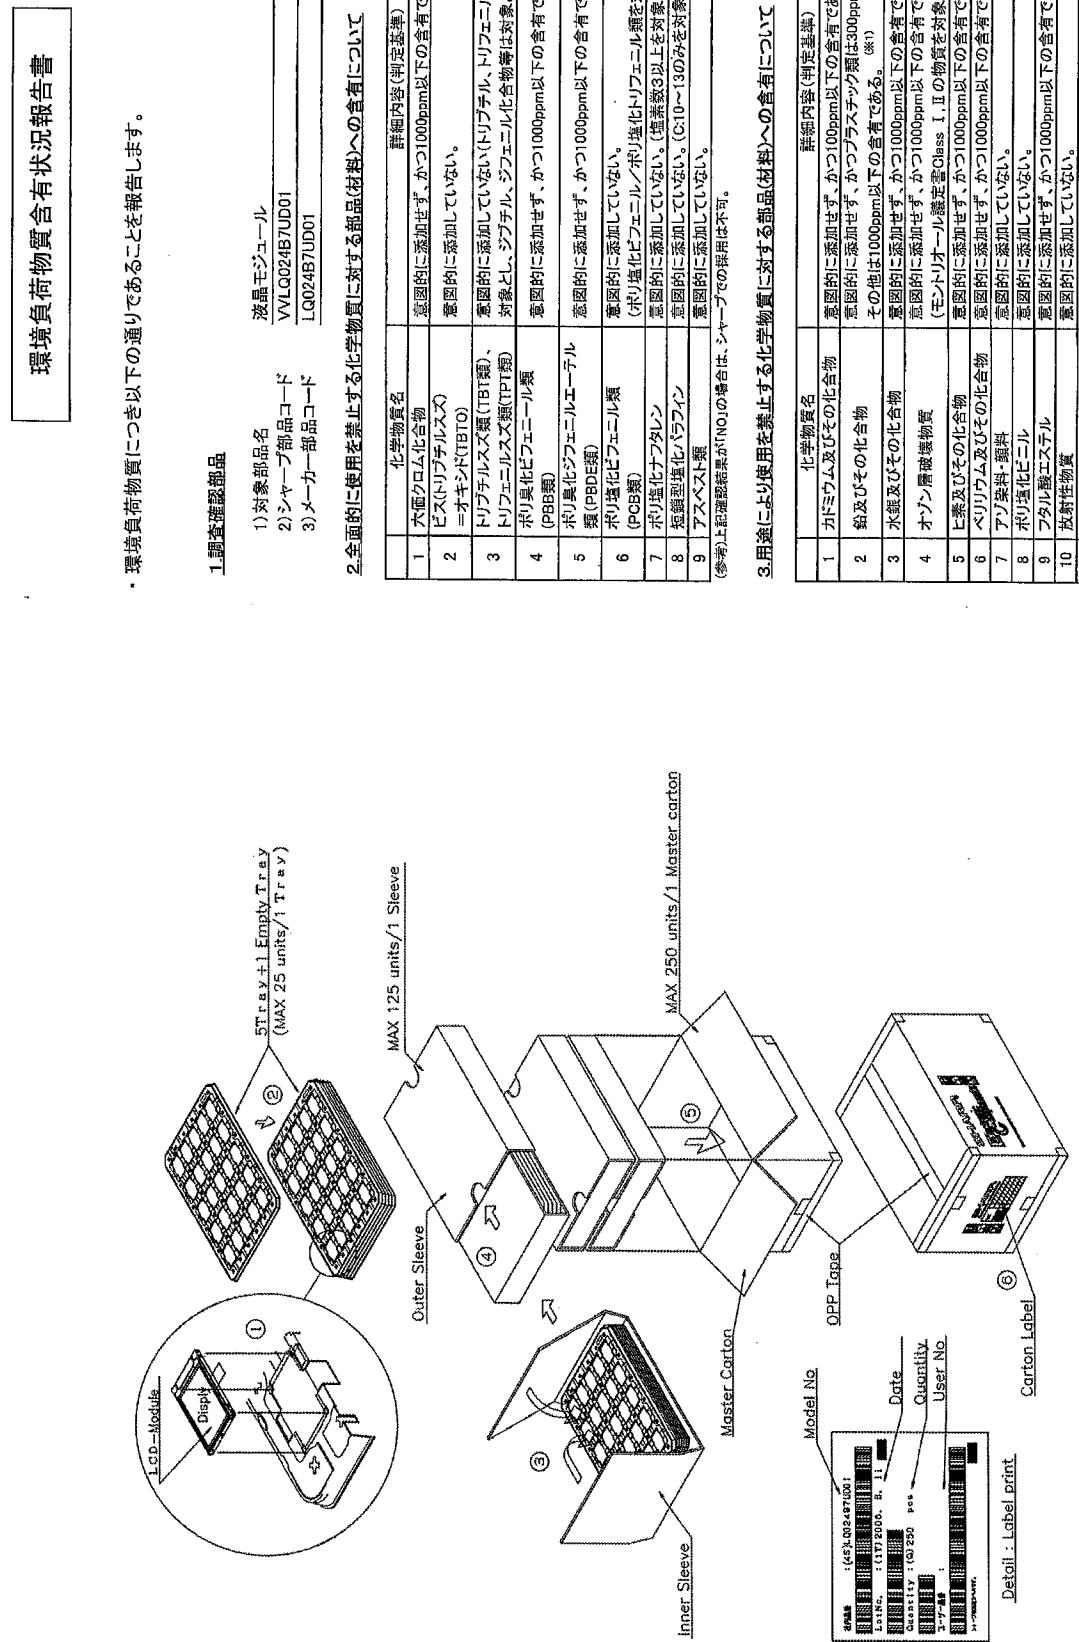

Fig. 2 Packing form
16)Forwarding form (see Fig.2)